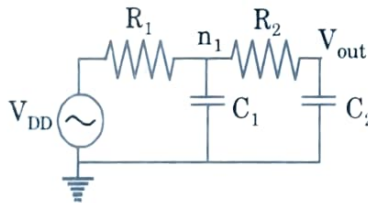

Fig. 2.11.3.
6. Fig. 2.11.3 shows a second-order system. R_1 and R_2 might model the two series nMOS transistors in a NAND gate or an inverter driving a long wire with non-negligible resistance.